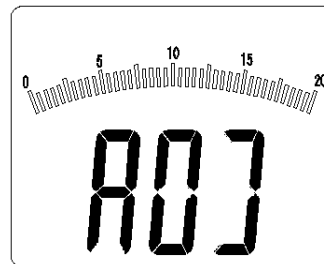

Figure 3-1-4B
- Cover the opto-sensor with the visor, and press and hold “HOLD/ZERO” key for one second, “ADJ” will appear on LCD screen (as shown in figure 3-1-4B), then the device will enter the zero calibration mode. Several seconds later, “ADJ” on LCD interface will disappear, and zero calibration mode will automatically exit and return to auto measurement mode.